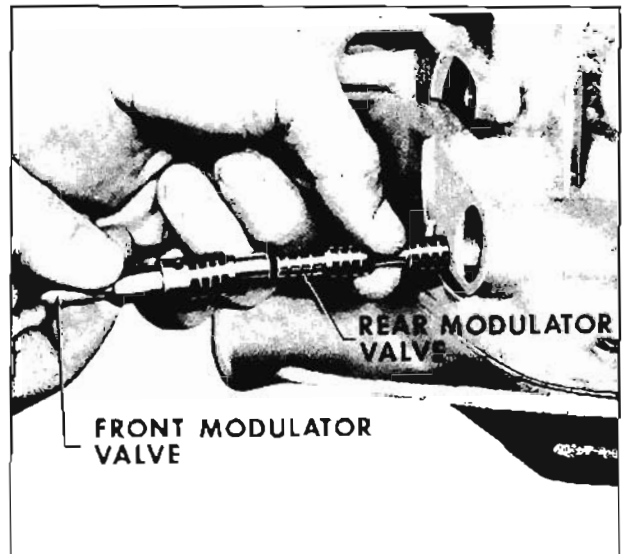

Fig. 6-286 Removing Vacuum Modulator Valve
2. Inspect and if necessary remove vacuum modulator to case oil seal. (Fig. 6-286)